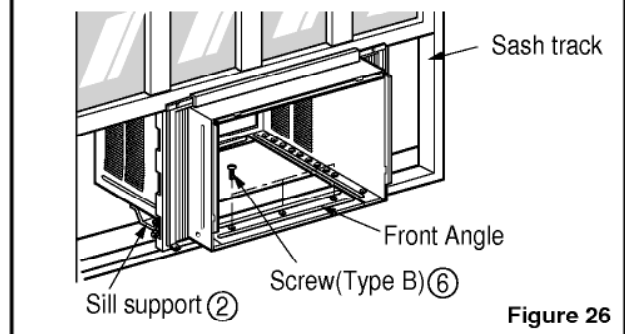

Figure 26
6. The cabinet should be installed with a very **slight tilt (about 1/2") downward** toward the outside (See Figure 26). Adjust the bolt and the nut of sill support for balancing the cabinet.